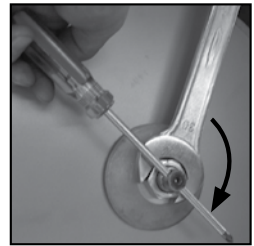

Fig. 3
4. Hold the cutting shaft with the supplied mandrel and loosen the clamping nut with the open-end wrench (included). **Left-hand thread!** Remove the clamping nut, the pressure flange and carefully the diamond cutting disc (16).
5th **Fig. 3** Before installing the new diamond cutting disc (16), clean the cutting shaft and the blade flange with a cloth or brush. **Danger!** Do not use cleaning agents that may damage the components.